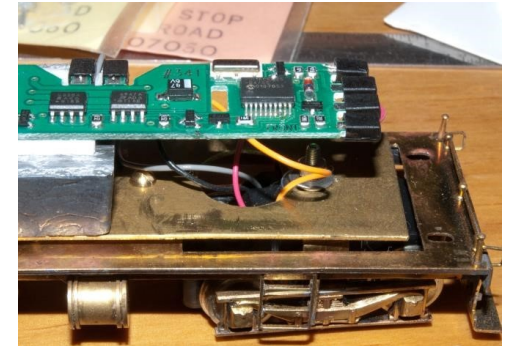
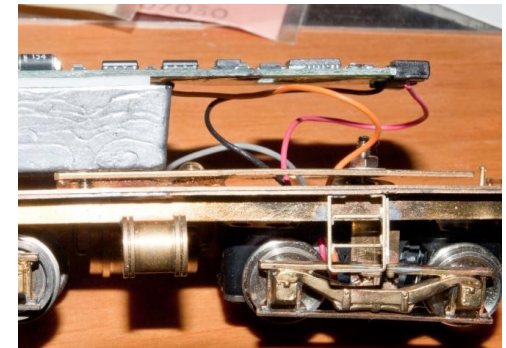

Figure 1
Figure 2
4. Make the NWSL Stanton drive mounting plate from K&S 1" by .032" sheet (**See Figure 1**). I had to shim it up to get the Stanton drive even with the mounting of the dummy truck. I drilled a ½" hole in the mounting plate to accommodate the wires from the Stanton drive. By the way, I had to cut down the weight (**See Figure 2**) so the decoder (an old Atlas AH120FXLP) didn't touch the top inside surface of the carbody. A modern decoder would work just as well, but I don't know what sound the engine's 300 HP prime mover made.